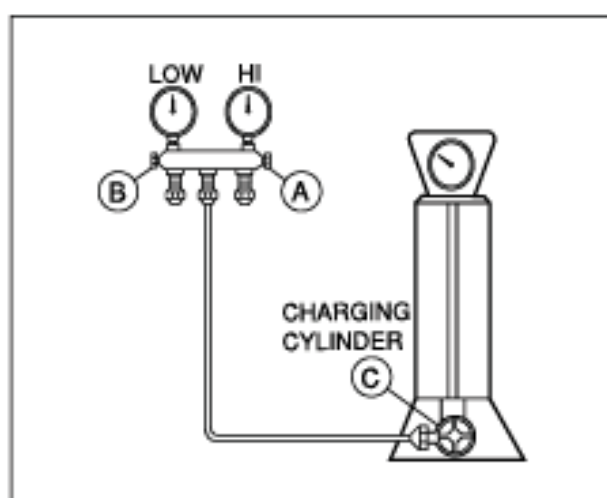

Figure 17B-Charging
- 4) Remove the hose from the vacuum pump and place it on the charging cylinder. See Fig. 17B. Open valve C.
- 2) Connect the charging cylinder as shown in Fig. 17B. With valve C open, discharge the hose at the manifold connection.